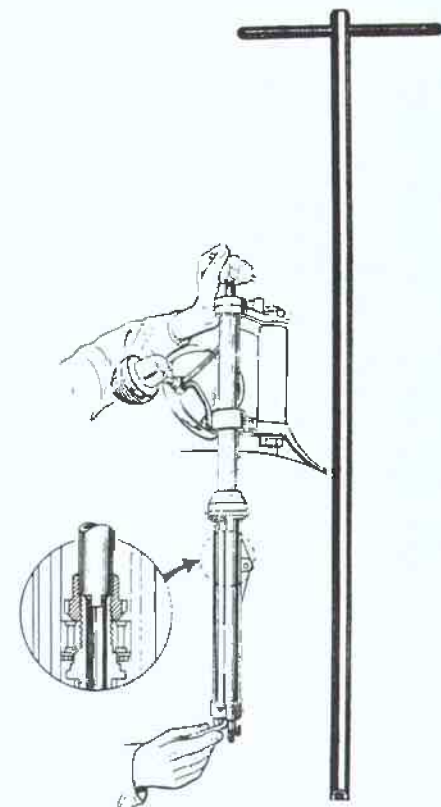

Fig. TM4-18A—A special tool is helpful for holding the damper tube while removing screw.
Disassembly and reassembly of late forks is more easily accomplished using the special tool shown in Fig. TM4-18A. The tool holds the damper tube assembly (7—Fig. TM3-18) while removing or installing the Allen screw (14). A 13/16 inch socket with a long extension can be used to hold nut (4) in a similar way if the special tool is not available. Coat threads of spring seat (1A) with "Permatex Super 300"; "Loc-tite Hydraulic Sealant" or equivalent to prevent leakage.